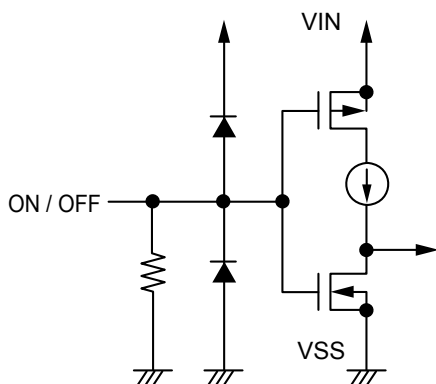

Figure 17
Note that the current consumption increases when a voltage of 0.3 V to 1.0 V ($T_a = 25^\circ\text{C}$) is applied to the ON / OFF pin. The ON / OFF pin is configured as shown in **Figures 17** and **18**. In the S-1137 Series A / C types, the ON / OFF pin is internally pulled down to the VSS pin in the floating status, so the VOUT pin is set to the V_{SS} level. In the S-1137 Series B / D types, the ON / OFF pin is not internally pulled down, so do not use the pin in the floating status. When not using the ON / OFF pin in the S-1137 Series B / D types, connect the pin to the VIN pin.
*1. IC's current consumption increases as much as current flows into the pull-down resistor when the ON / OFF pin is connected to the VIN pin and the S-1137 Series A / C types is operating (**Figure 17**).